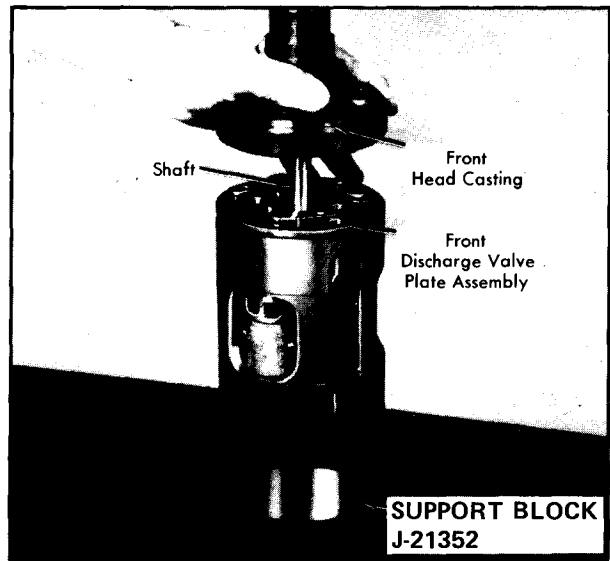

Figure 100—Installing Front Head Casting
7. Determine **exact** position of front head casting in relation to dowel pins on internal mechanism. Mark position of dowel pins on sides of front head assembly and on sides of internal mechanism with a grease pencil. Carefully lower front head casting into position (figure 100), making certain that **sealing area around center bore of head assembly does not contact shaft** as head assembly is lowered. **Do not rotate head assembly** to line up with dowel pins, as the sealing areas would contact reed retainers.